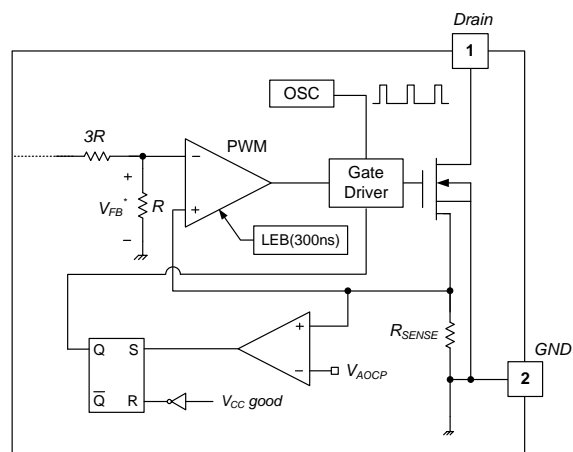

Figure 21. Abnormal Over-Current Protection
**4.2 Abnormal Over-Current Protection (AOCP):** When the secondary rectifier diodes or the transformer pins are shorted, a steep current with extremely high di/dt can flow through the SenseFET during the minimum turn-on time. Even though the FSGM0465R has overload protection, it is not enough to protect the FSGM0465R in that abnormal case; since severe current stress is imposed on the SenseFET until OLP is triggered. The FSGM0465R internal AOCP circuit is shown in Figure 21. When the gate turn-on signal is applied to the power SenseFET, the AOCP block is enabled and monitors the current through the sensing resistor. The voltage across the resistor is compared with a preset AOCP level. If the sensing resistor voltage is greater than the AOCP level, the set signal is applied to the S-R latch, resulting in the shutdown of the SMPS.